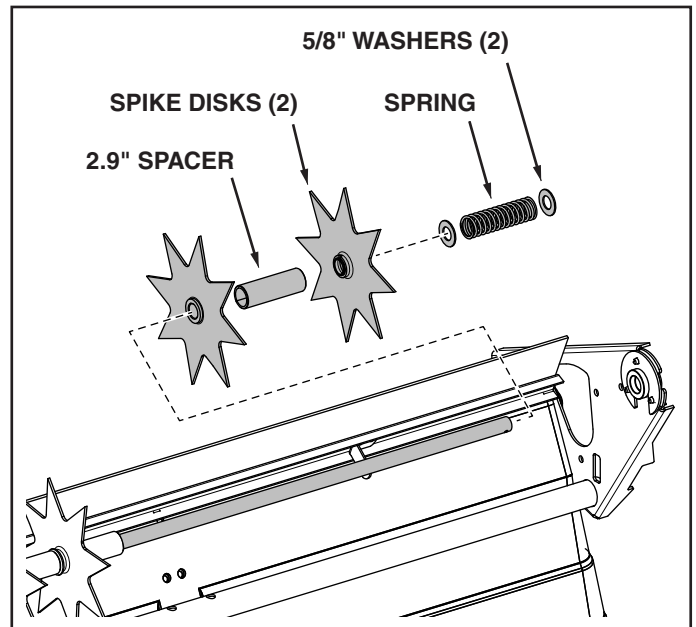

FIGURE 7
8. Assemble two spike disks and a 2.9" spacer onto the axle. The flat side of the disks should face away from the spacer. See figure 7.
9. Assemble two 5/8" washers and a spring onto the axle. See figure 7.